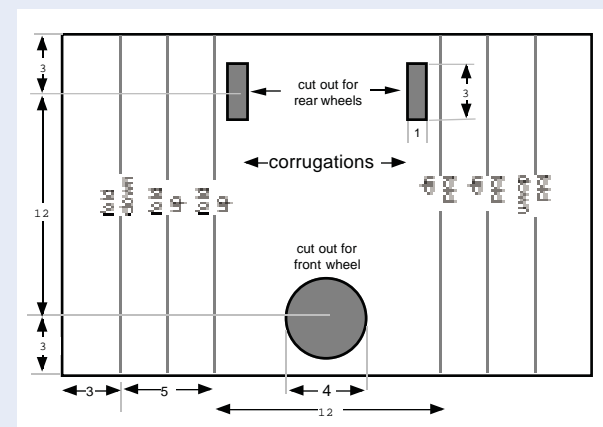

Figure 2. Aircart base.
1. Base (Fig. 2): The base may be cut from an 18cm x 28cm piece of corrugated cardboard. The aircart is built up from this base; wheels attach to it and the motor is mounted on it. Cut out the base, and score the folds. Fold the sides to make triangular beams. The flaps should meet in the center and cover the front wheel hole. Mark this hole on the flaps and cut out the semicircles. Glue carefully, the angles must be 60 degrees or the aircart sides won't fit right.